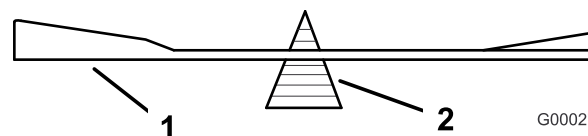
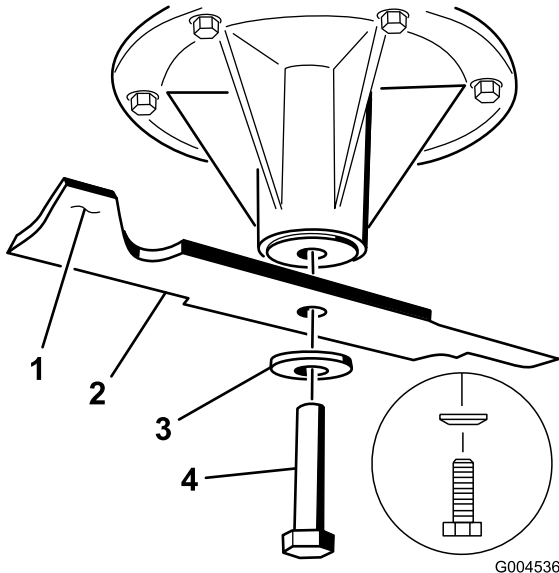

Figure 63
Figure 64
2. Remove the blade bolt, spring disk and blade from the spindle shaft (Figure 64).
2. Check the balance of the blade by putting it on a blade balancer (Figure 63). If the blade stays in a horizontal position, the blade is balanced and can be used. If the blade is not balanced, file some metal off the end of the sail area only (Figure 64). Repeat this procedure until the blade is balanced.
1. Install the blade onto the spindle shaft (Figure 64).
2. Install the spring disk and blade bolt. The spring disk cone must be installed toward the bolt head (Figure 64). Torque the blade bolt to 85-110 ft-lb (115-150 N-m).